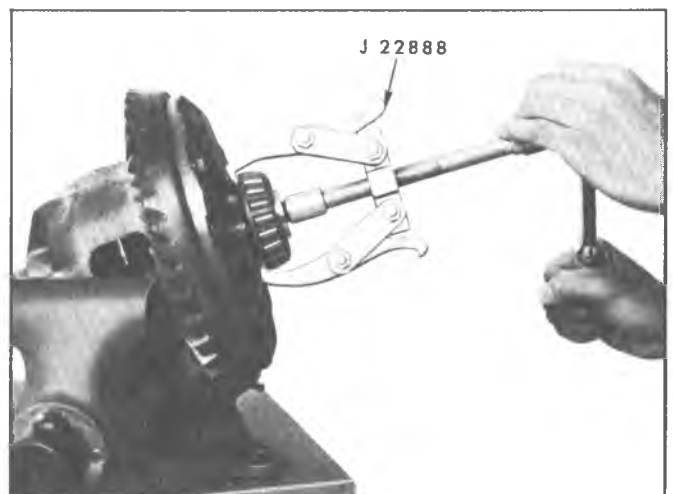

Fig. 3A—Differential Side Bearing Removal
1. Install Tool J-22888 and Adapter Plug J-8107-2, as shown in figure 3A. Make sure that the puller legs are fitted securely in case notches, against inner race.